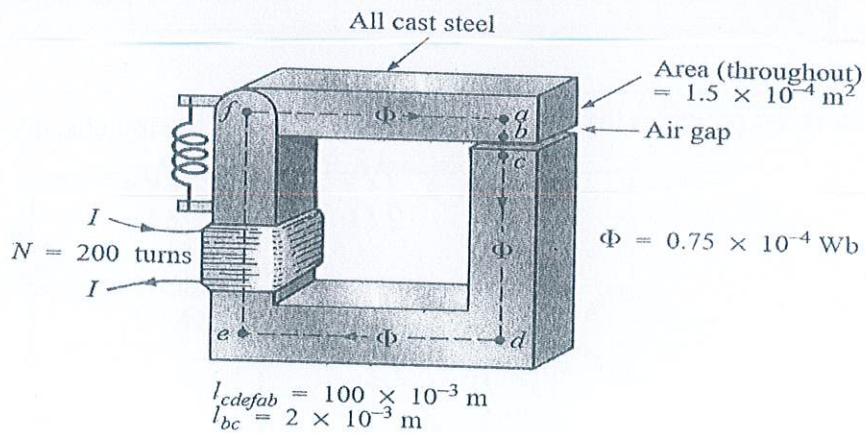

Figure 2
2. Find the value of current required to establish magnetic flux in the circuit of figure 2. Use attached B-H curve if required. [25]